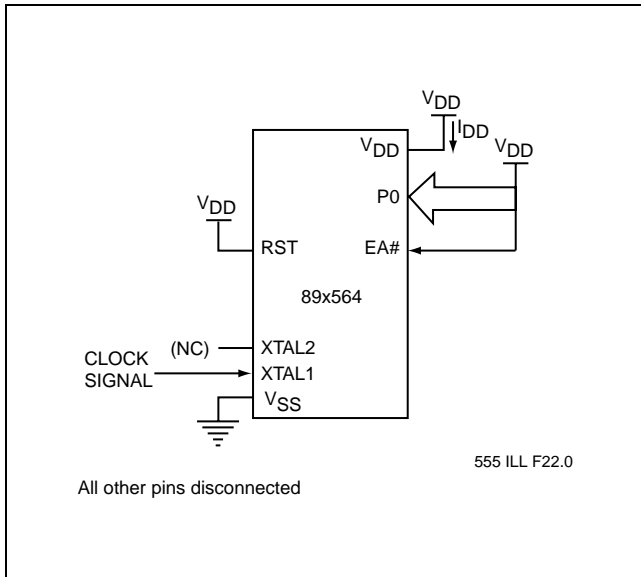

FIGURE 11-1: I_{DD} TEST CONDITION, ACTIVE MODE
7. See Figures 11-1, 11-2, 11-3 and 11-4 for test conditions. Minimum V_{DD} for Power Down is 2.0V.